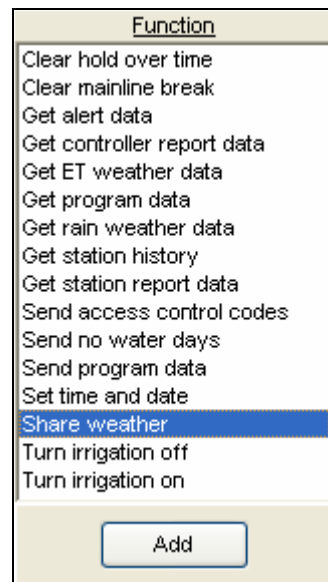

Figure 12.2.1
- Next highlight the **Share weather** function in the **Function** window (Figure 12.2.1).